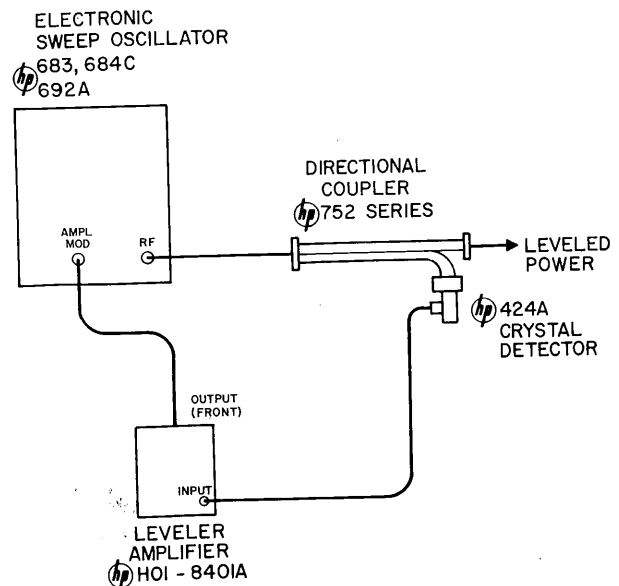

Figure 4. Closed Loop Leveling
31. A typical setup for controlling output level variations of swept frequency oscillators is shown in Figure 4. The sweep frequency output is sampled by a directional coupler and rectified by the crystal detector. The variations in the detected output of the crystal detector are proportional to the sweep frequency output level variations and are amplified within